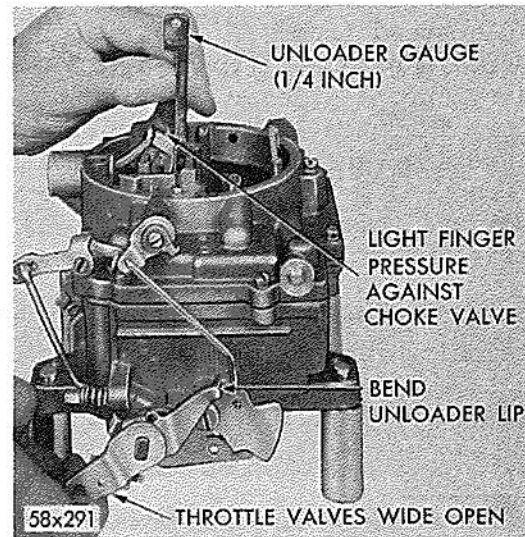

Fig. 8 - Checking and Adjusting Choke Unloader (Fast Idle Kick)
(1) With the throttle valves in the wide open position, it should be possible to insert Tool T-109-31 (1/4 inch) gauge between the upper edge of the choke valve and the inner wall of the air horn, as shown in Figure 8.
(2) If an adjustment is necessary, bend the unloader lip on the throttle shaft lever, using, Tool T-109-41, until correct opening has been obtained.